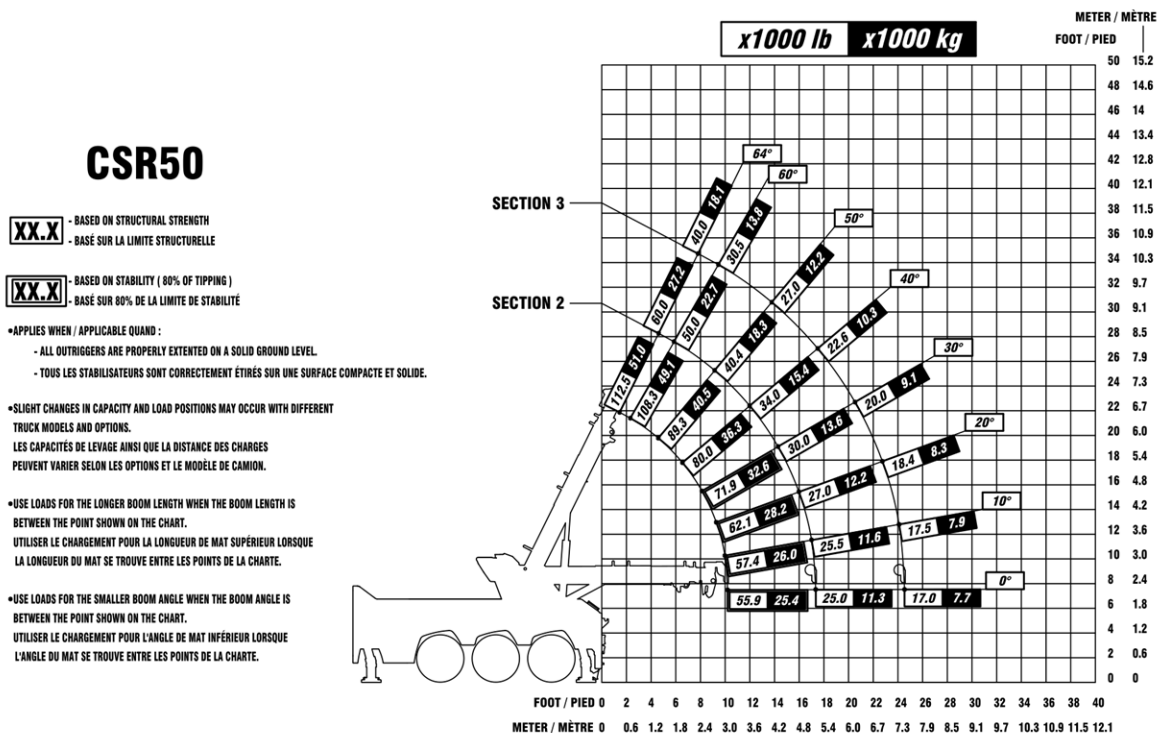

FIGURE 15 – LIFTING CAPACITY OF THE CSR50 FROM THE REAR
- Figure 15 — Lifting Capacity of the CSR50 from the Rear